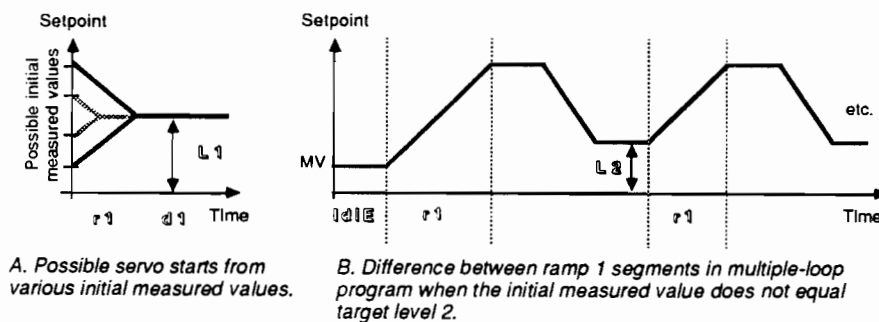

Figure 6.6. Servo start on ramp 1 segment.
- $r1 = \text{ramp 1}$. The rate at which the setpoint ramps to the first target level. Adjustable from 0.01 to 99.99 display units per minute. $r1$ always starts from the measured value (*servo start*). Servo start is illustrated in Figure 6.6.